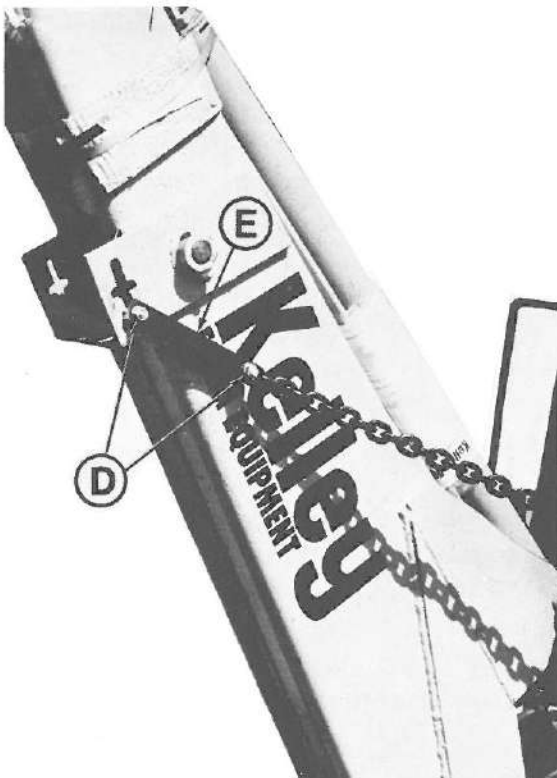

Figure 4.
13. Remove the four bolts and nuts that attach the transport chains to the boom (D of Figure 4). Discard the shipping straps (E).